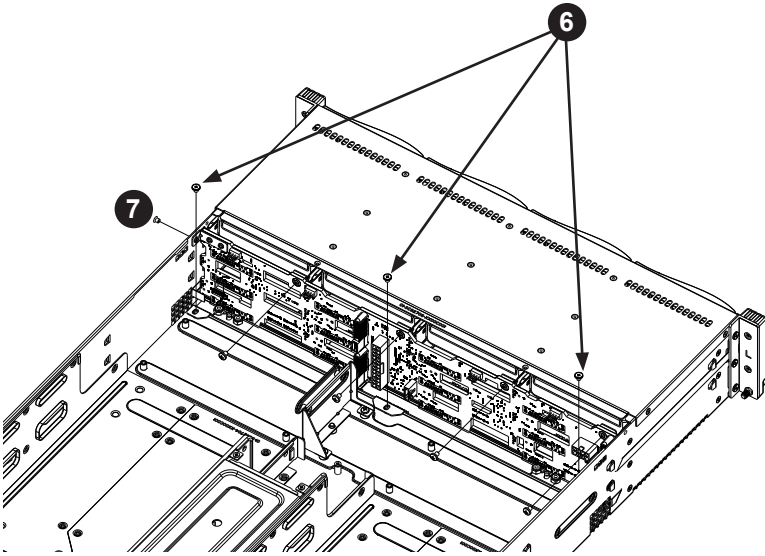

Figure 6-7. Loosening the Spring Bar Screws in the Floor of the Chassis
6. Loosen the three screws in the spring bar, located on the floor of the chassis, indicated by the arrows below (Figure 6-7).
7. Remove the side screw from the side of the chassis (Figure 6-7).